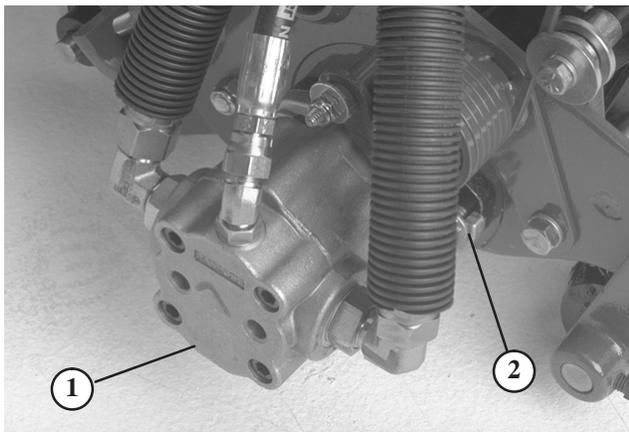

Figure 9
- Assemble the mounting nuts for the reel drive motor to each cutting unit (Fig. 9). Leave approximately 1/2 in. of threads exposed on each mounting stud.